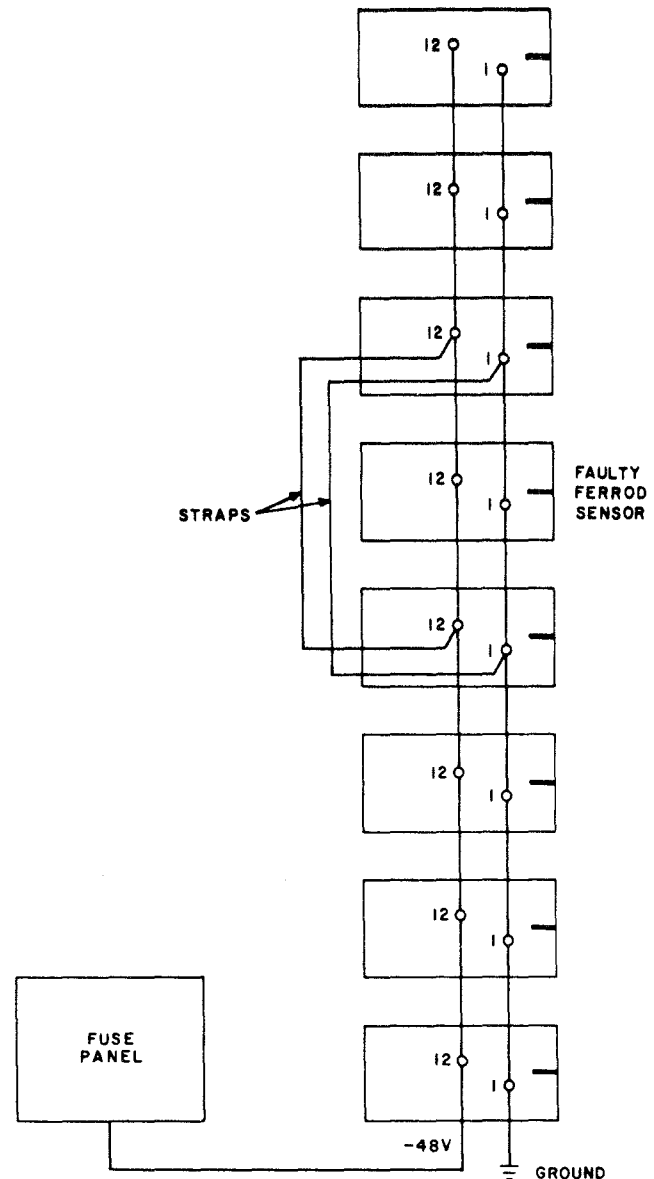

Fig. 2—Power and Ground Strapping for Line Scanner Ferrod Sensor (2:1 or 4:1 LCR)
- (4) Strap the -48V battery and frame ground terminals as shown in Fig. 2.